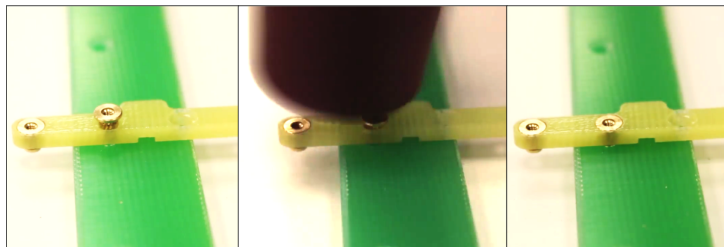

Figure 34: Insertion of the brass inserts.
Step 3: Insert the brass piece into the hole and gently hammer it with the mallet until it is fully inserted (Fig. 34).